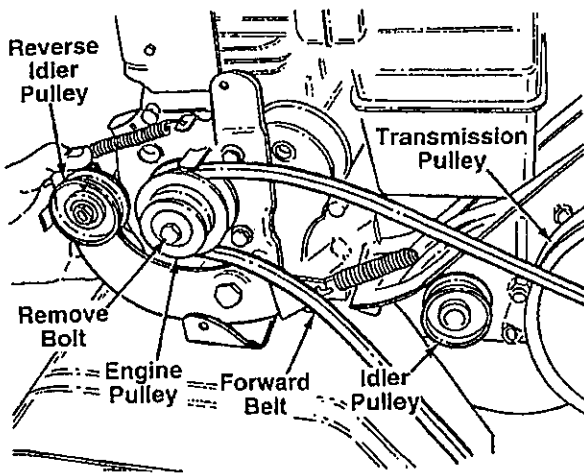

FIGURE 18-Model 390 Only
2. Lift belt off the idler pulley and transmission pulley. See figure 18.
3. Using a 9/16" wrench, remove bolt from engine pulley. See figure 18.
4. Push reverse idler pulley forward, and remove engine pulley and belt. See figure 18.